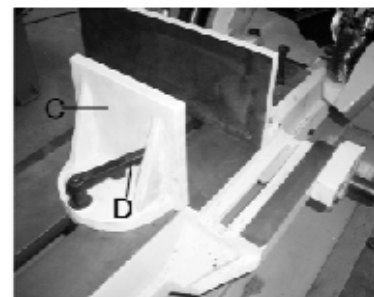

Fig.15
5. Pivot the right vise jaw (C) all the way to the left, as shown in Fig. 15, and lock spring loaded clamp handle (D).
6. Using a combination square, place one end of the square against the vise jaw and the other end against the blade, as shown in Fig. 15. And check to see if the vise jaw is at 45 degrees to the blade or not.